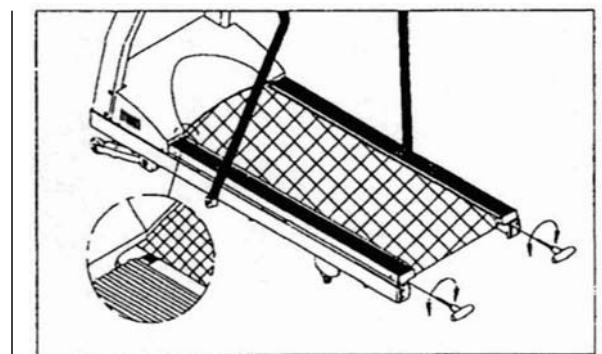

Fig.16
4. To make sure the running belt is aligned properly after you replace the front roller, please check the color gauge on the front of motor shroud. The left edge of the running belt should be in the middle of the green section ( safety zone). If the belt edge is in the red zone ( either in the left or right), this could damage the entire treadmill.(see Fig.16) Please refer to belt alignment on page 87 for more information.